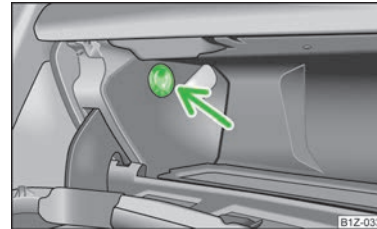

Fig. 69
- Use the rotary switch » Fig. 69 to open/close the air supply.